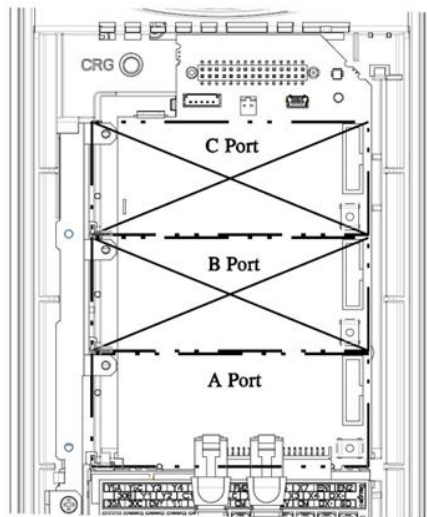

Figure 5: Option Port Locations on 0.4 kW Inverter
1. Remove the front cover from the inverter to expose the control printed circuit board (control PCB). As shown in Figure 5, there are three option connection ports (A-port, B-port and C-port). The card is mechanically keyed for, and can only be installed into, the A-port (bottom-most) position.